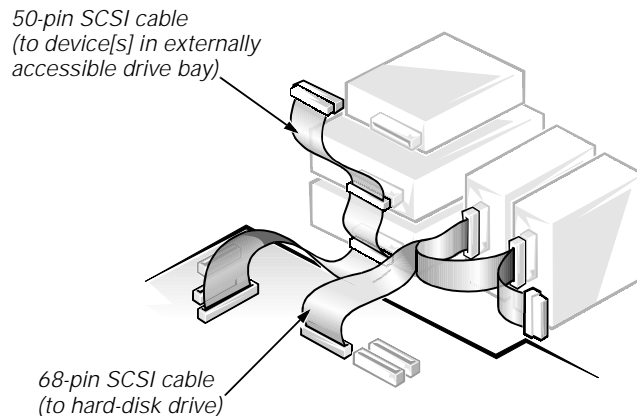

Figure 10-13. Internal SCSI Cable
- The other connectors on the cable are used for attaching up to two SCSI hard-disk drives in the internal drive bays (see Figure 10-13).
- The other connectors on the cable are used for attaching SCSI devices installed in the externally accessible drive bays (see Figure 10-13).